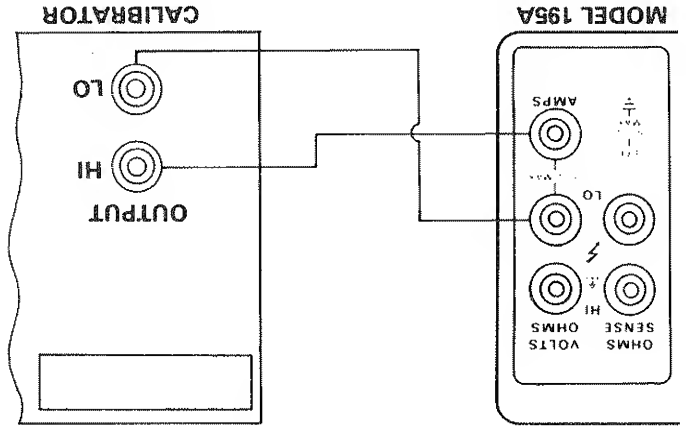

Figure 5-4. Verification Connections for Current
2. Connect the AC calibrator to the instrument as shown in Figure 5-4. Set the calibrator frequency to 1kHz and see that the Model 195A INPUTS switch is in the front panel position. Do not use ZERO in the AC mode.